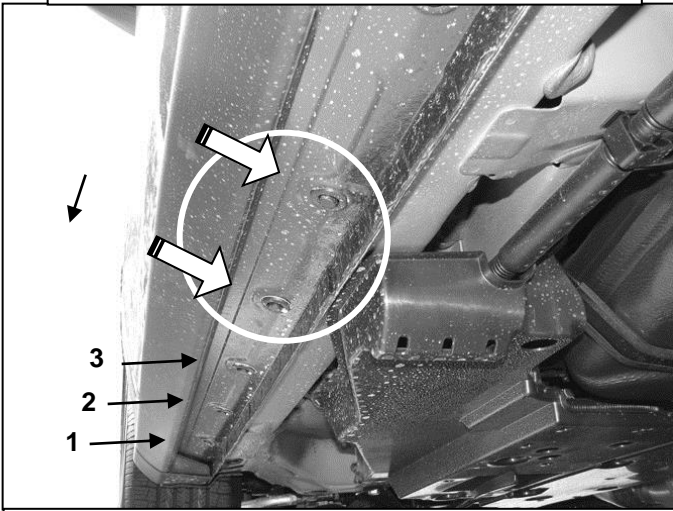

Fig 6) Driver side Center Bracket location pictured
- Move along the side of the vehicle to the center location below where the front and rear doors meet. Locate the 4th and 5th hole in the floor panel from the front wheel opening, **(Figure 6)**. Remove the (2) rubber plugs. Select (2) 10mm x 50mm Bolt Plates and (2) 10mm Plastic Retainers. Thread (1) Plastic Retainer part way onto each Bolt Plate, **(Figure 7A)**. Insert (1) Bolt Plate into the first and second round hole in the floor panel next to the pinch weld, **(Figure 7B)**.